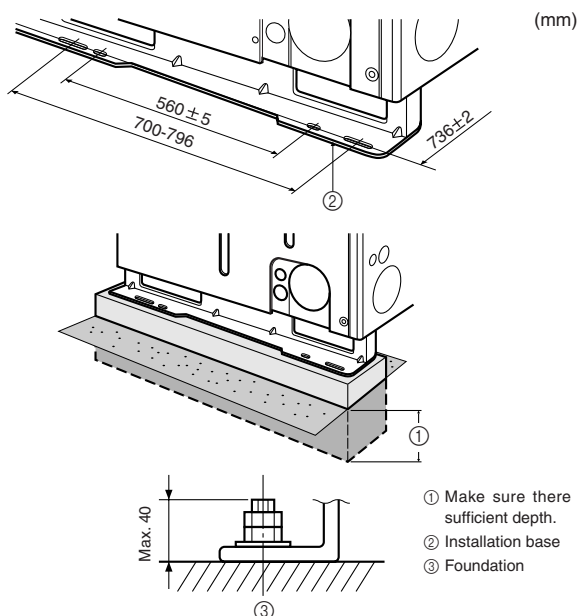

Fig. 4-2
4.2. Requests when installing the units (Fig. 4-2)